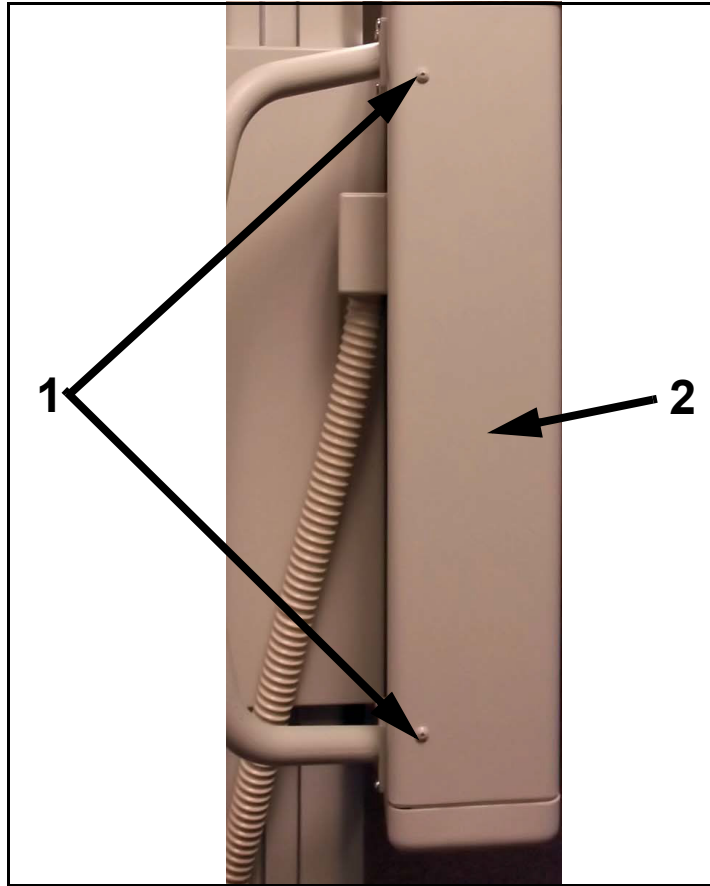

Figure 6-10. Left Side Panel & Front Panel
- 4 Unscrew the two left side cover screws (1 in Figure 6-10) and remove the side cover (2).